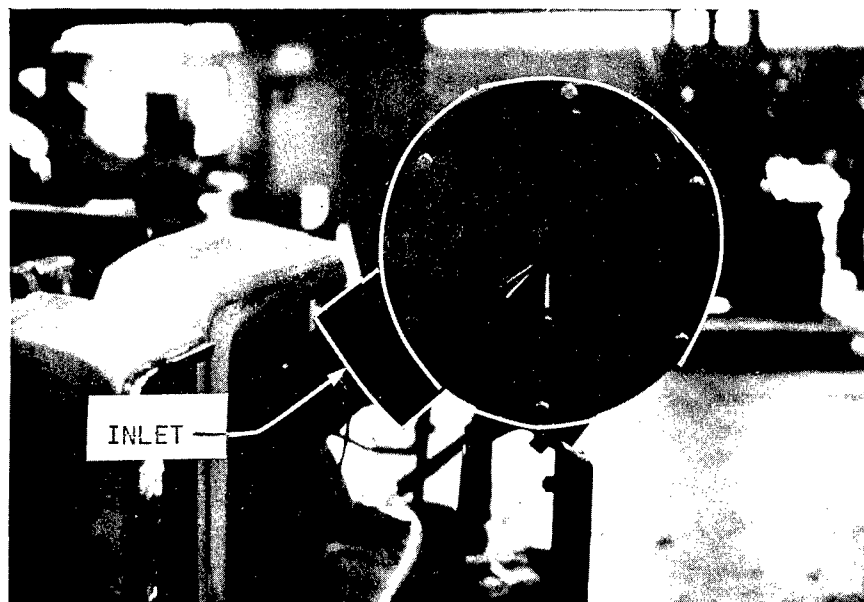

Figure 1
A. Mount the air cleaner housing to the front bumper using minimum 1 1/4 x 1 1/4 x 1/8 structural steel "angle iron" brackets and 1 x 1/8 in steel bands. Stabilizer rods or straps should be used to prevent vibration or movement of the unit during vehicle operation. If the vehicle bumper is equipped with push bars, a 1 1/4 inch "angle iron" section can be bolted or welded to the top of the push bar frame and the air cleaner mounted to it, Fig 1. Insure that the air cleaner location selected permits easy access to the filter element and incurs minimum air restriction to the radiator.
B. Remove the air cleaner rain cap, if so equipped, and point the air inlet toward the radiator and slightly down as shown in Fig 1, to avoid picking up dust from the vehicle hood and rain water. Locating the inlet pipe in this direction is also important because it provides a significant degree of inertial separation, or precleaning, to the truck filter with a corresponding increase in vehicle operating capability.